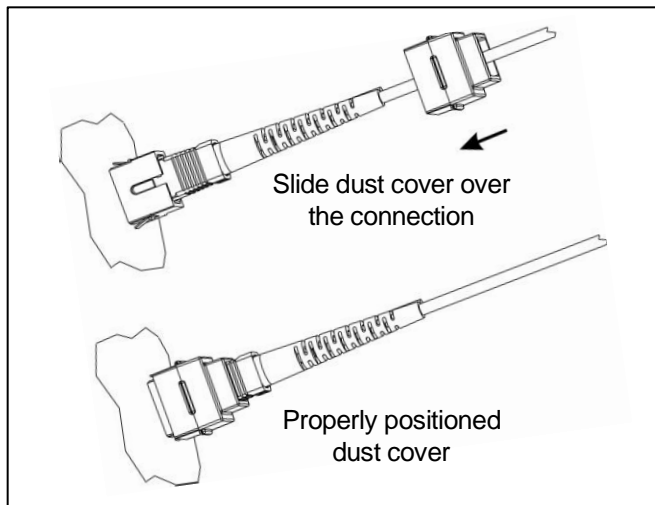

Figure 2. Dust cover positioning
- ① Clean all connector endfaces prior to mating using company best practices.
- ② Locate the SC/APC connector on the 10-inch pigtail (no shutter). Remove the dust cap. Make the connection to the OTDR.
- ③ Slide the launch cable's dust cover over the connection point. It will snap into place. See figure 2.